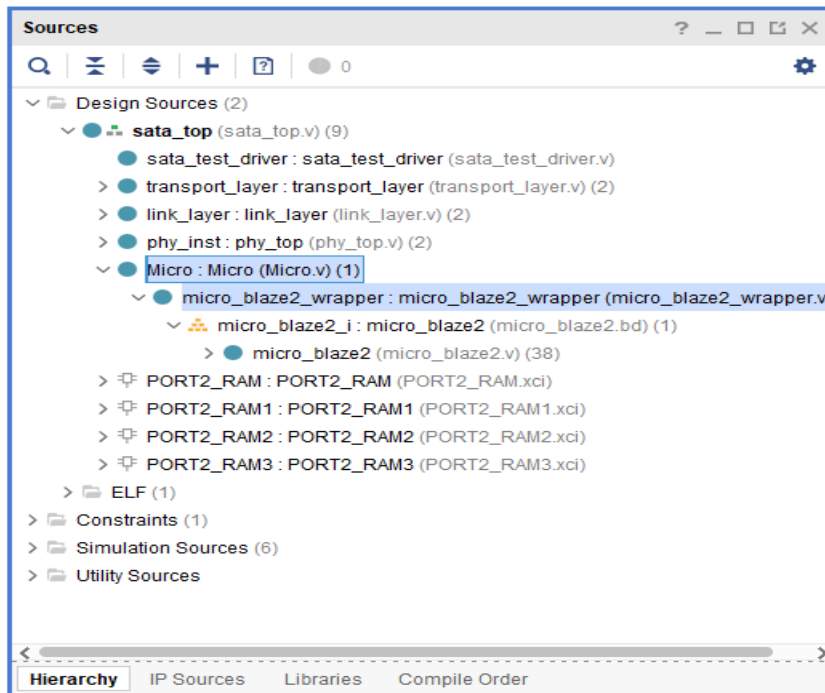

Figure 3: Instantiation Module of SATA 3.0 Host Controller Block design
The SATA 3.0 Host Controller block design (Micro.v) is instantiated in the design as shown in the below Figure 3.
8. After the wrapper file creation then Instantiate inside the top module of design as shown in Figure 3.